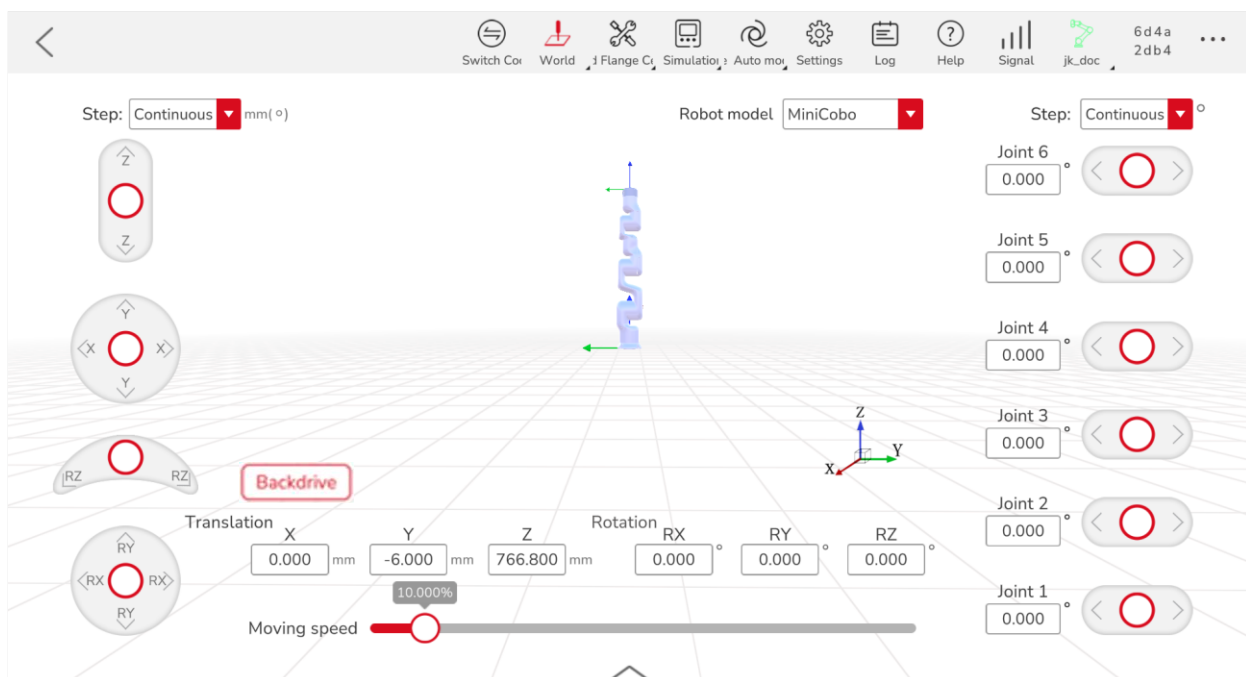

Figure 2-3: Backdrive button on JAKA App
3. Press and hold the “Backdrive” button to release the joint brake (shown in Figure 2-3 below).